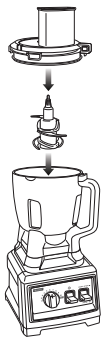

Fig. 20
- 5 Add the ingredients and secure the bowl lid onto the bowl. (Fig. 20)